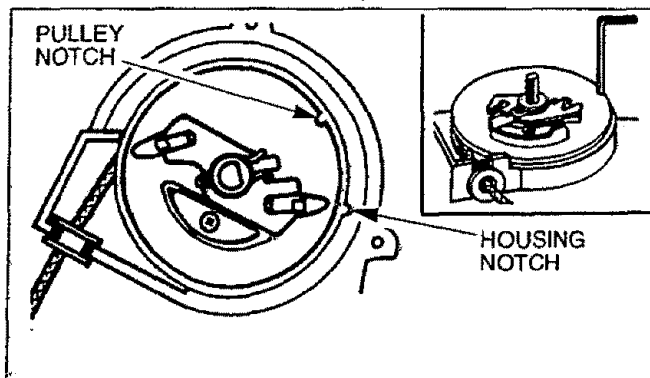

Figure 21
- Insert the end of the rope through the eyelet on the trigger handle, then through the eyelet in the notch on the engine shroud. Figure 21.